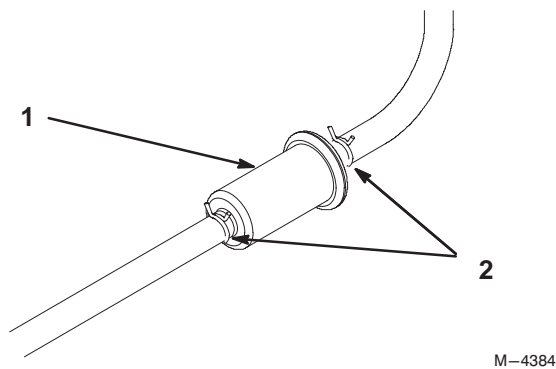

Figure 36
4. Squeeze the ends of the hose clamps together and slide them away from the filter (Fig. 36).